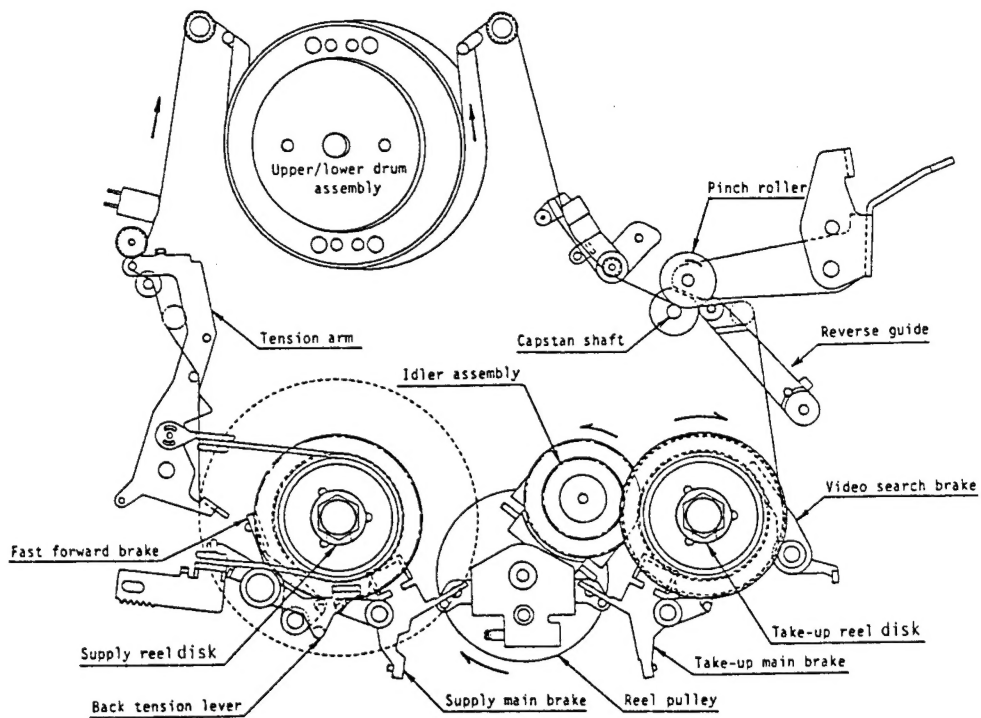

Figure 1-8. Cassette Tape Take-up Mechanism 4 (Upper stage)
- 9) In playback and recording operations, a back tension is provided by a combined force of the tension band, tension arm and tension spring at the supply reel disk. (Figure 1-8.)